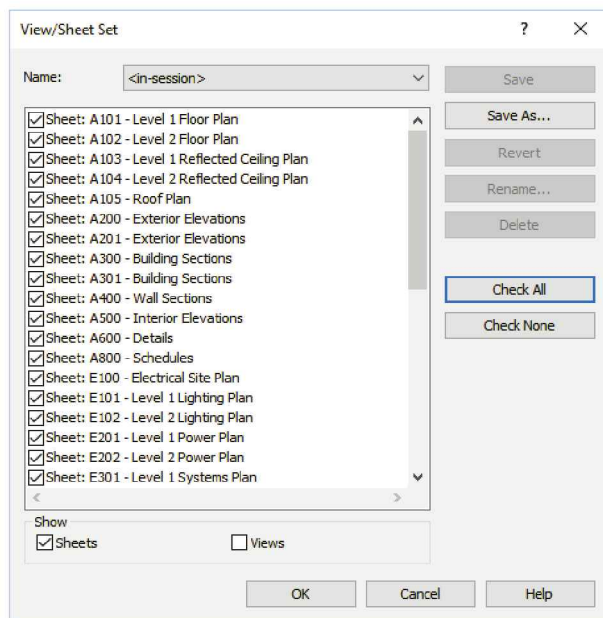

FIGURE 16-3.2 Selecting tool for printing
You should now see a listing of all views and sheets (Figure 16-3.2).
***FYI:** Once you have selected the sheets to be plotted, you can click **Save**. This will save the list of selected drawings to a name you choose. Then, the next time you need to print those sheets, you can select the name from the drop-down list at the top (Figure 16-3.2).*